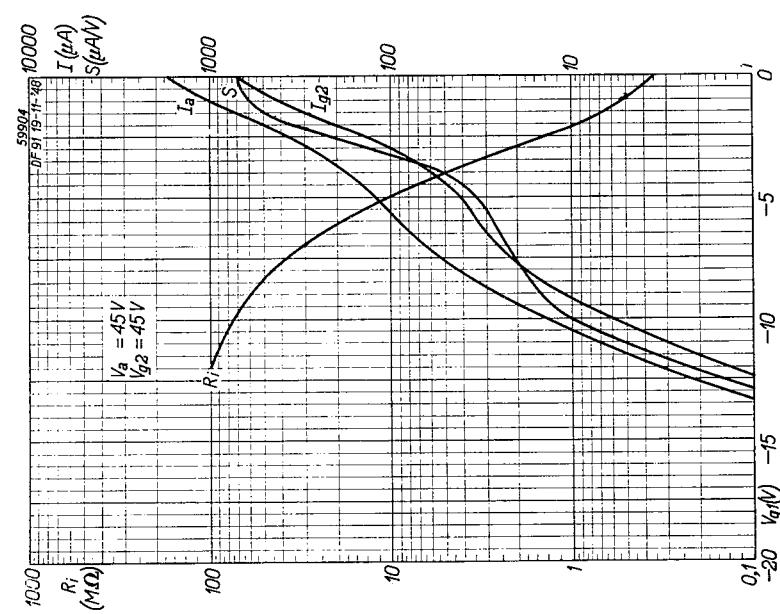
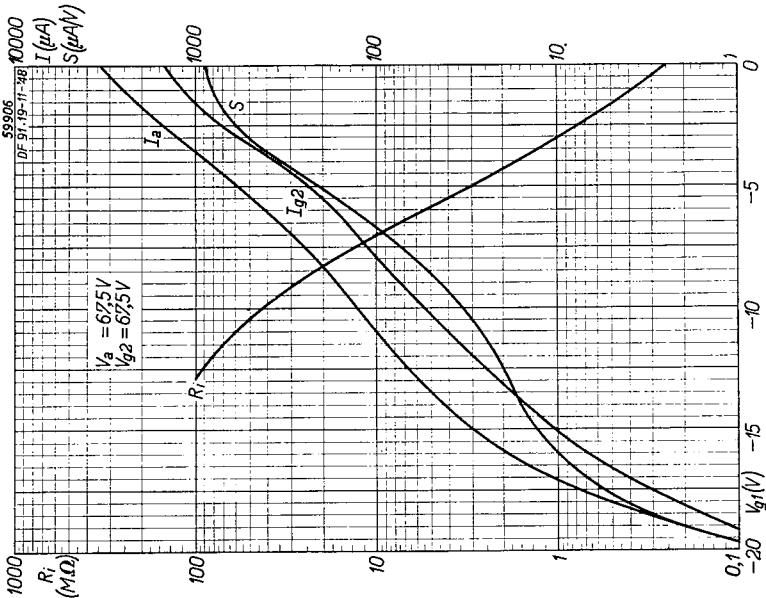

Fig. 3
Fig. 4
Anode current (I_a), screen grid current (I_{g2}), mutual conductance (S) and internal resistance (R_i) of the DF 91 as functions of the grid bias (V_{g1}). Fig. 3 for $V_a = V_{g2} = 45V$; Fig. 4 for $V_a = V_{g2} = 67.5V$.